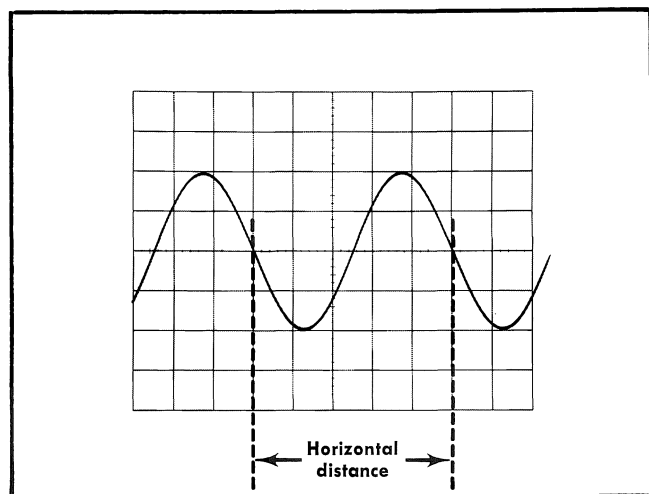

Fig. 2-16. Measuring time duration between points on a waveform.
5. Set the TIME/DIV switch to the fastest sweep rate that displays less than eight divisions between the time measurement points (see Fig. 2-16). See Horizontal Sweep Rate in this section concerning nonlinearity of first and last divisions of display.
EXAMPLE. Assume that the horizontal distance between the time measurement points is five divisions (see Fig. 2-16) and the TIME/DIV switch is set to $.1\ \text{ms}$ with the magnifier off.
EXAMPLE. The frequency of the signal shown in Fig. 2-16, which has a time duration of 0.5 milliseconds, is: